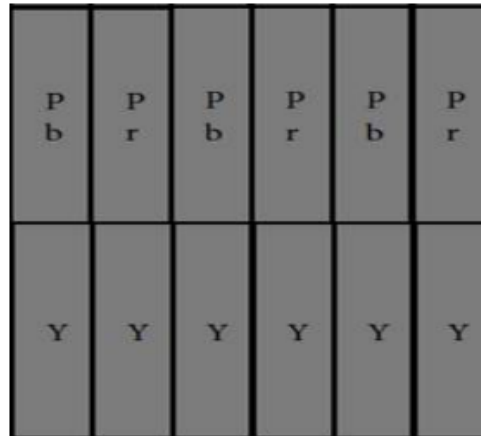

Figure 4: Luminance and Chrominance byte ordering
- The data must be 16-bit, with a doubled pixel clock (2 clocks per pixel). Luminance data in the lower byte, chrominance data alternating in the high byte (Figure 4).